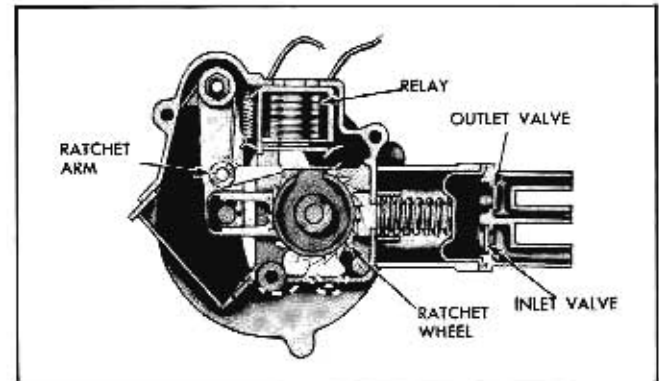
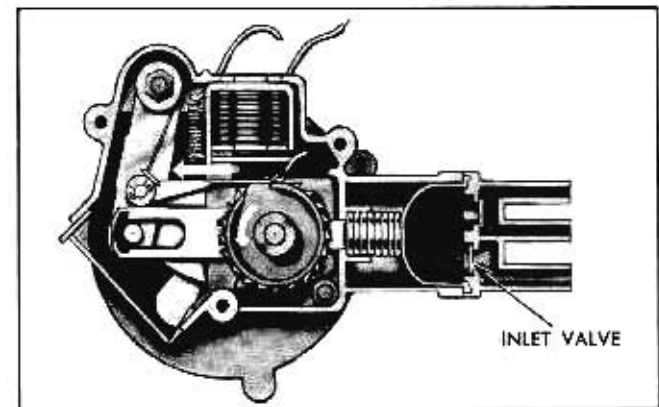

Fig. 11-66 Exhaust Stroke
Fig. 11-67 Suction Stroke
bellows forcing the water in the bellows out through the outlet valves to the nozzles (exhaust stroke) (Fig. 11-66). At the same time the edge of the plunger arm slot moves up tight against the lever arm pin. As the rotor cam is turned each lobe (4) actuates the lever arm which in turn pulls the plunger arm back compressing the spring. While the plunger arm is being pulled back (suction stroke) water is drawn in through the inlet valve (Fig. 11-67). As the high point of each lobe is passed, the plunger arm spring pulls the plunger arm toward the bellows. This collapses the bellows and forces water out through the outlet valve (exhaust stroke).